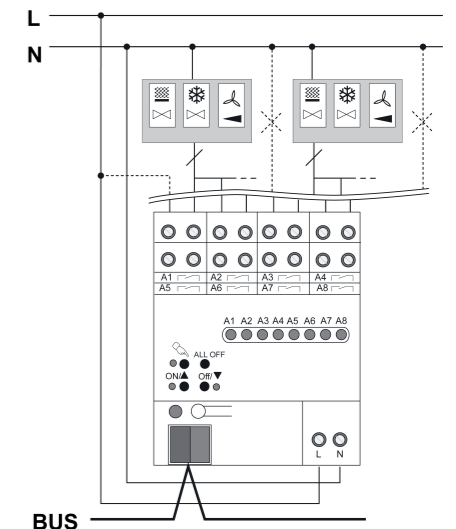

Figure 6: Connection example – load connection for 2 fan-coil outputs
- i Two fan-coil outputs with up to three fan levels each: see connection example (figure 6). Information regarding assignment of the outputs in (table 3), (figure 7) and (figure 8).